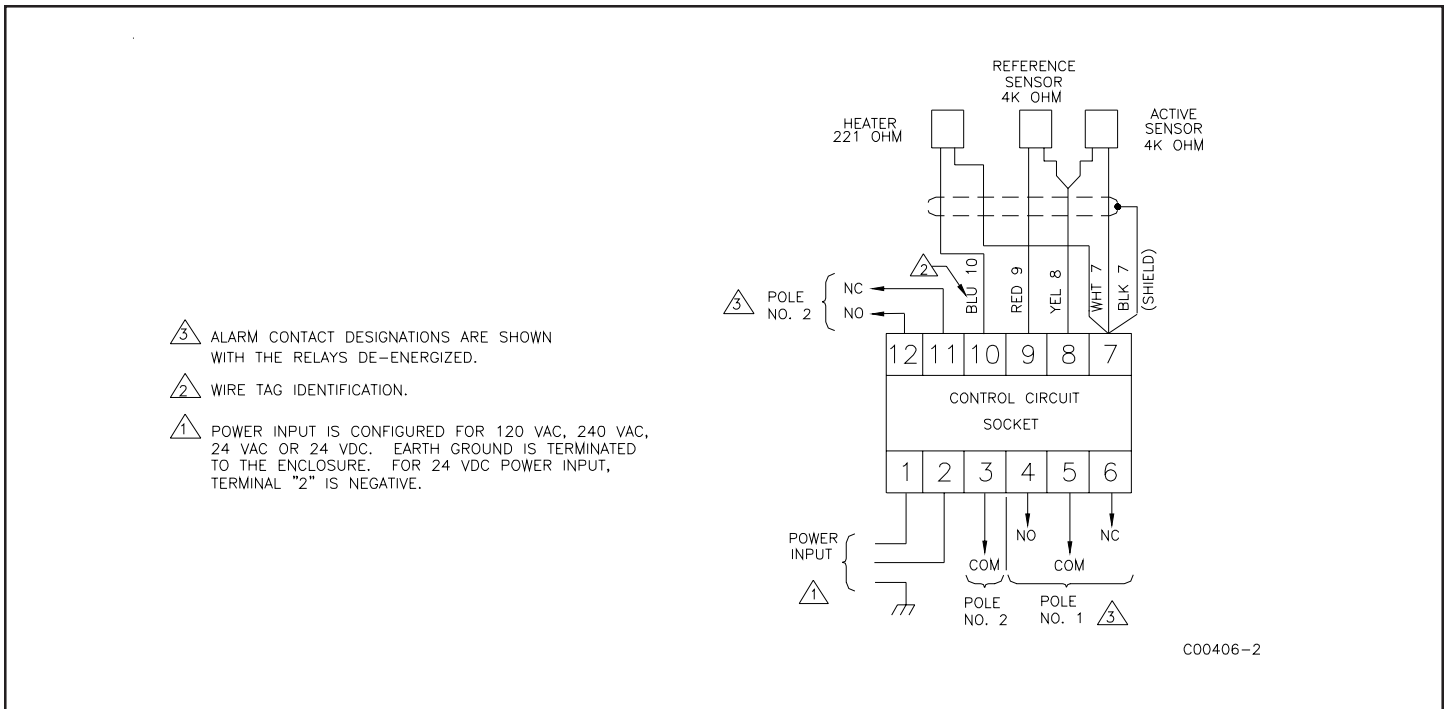

Figure 5 - Wiring Diagram
3. Measure the resistances as found in Table 2 to determine if the flow element is functional. The resistance is dependent on a temperature of 70°F (21°C). Note: See Figure 5 for pin location.